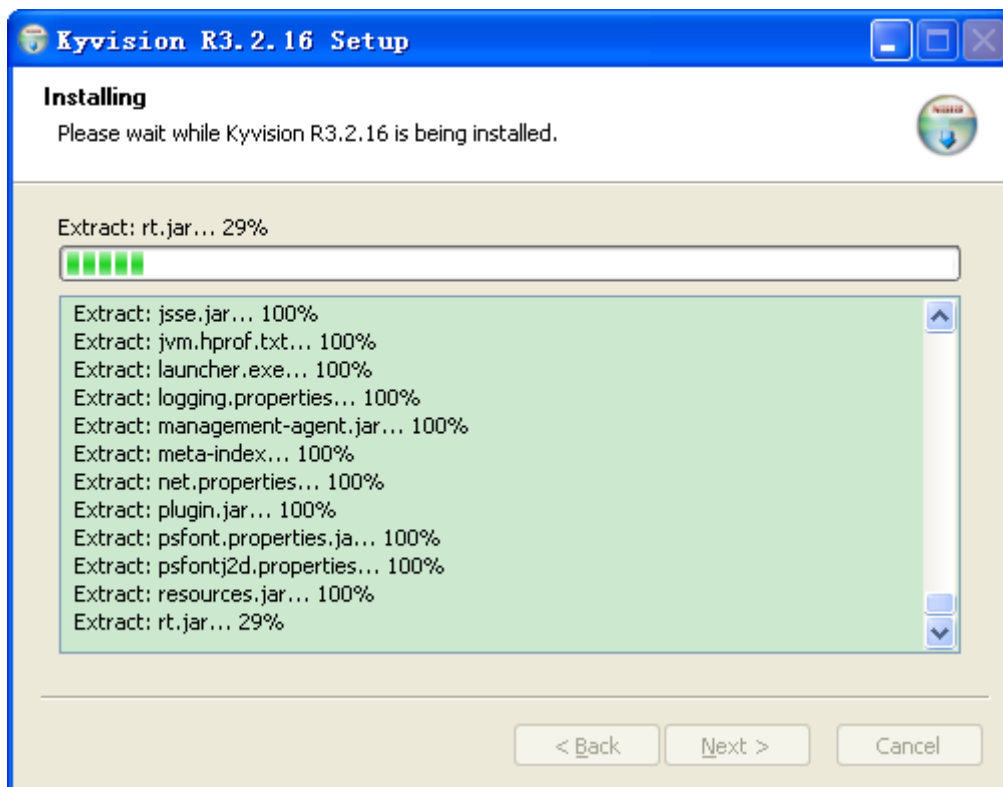

Figure 8 Installation Process
7. The installation process is displayed in the progress bar, as shown in Figure 8.